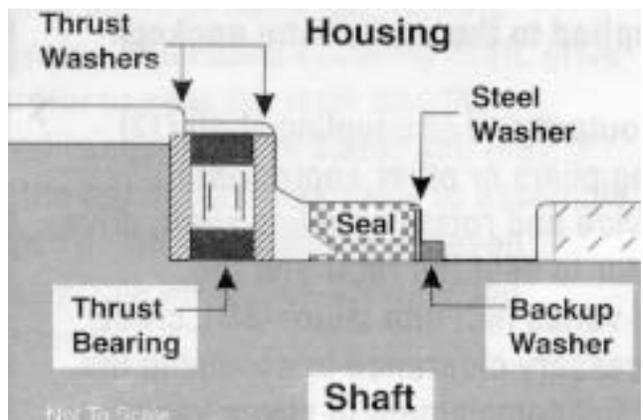

Figure 74
**IMPORTANT: Early model wheel motors that do not have back-up washer (6), assemble with a new back-up washer (4), new back-up washer (6), and new seal (7).**
5. A housing (3) that does not require replacement will require that the two thrust washers (8) and thrust bearing (9) be unseated and vertical to the counterbore and the new back-up washer (4), new back-up washer (6), and new seal (7) be worked around the thrust bearing package and placed into their respective counterbores (Fig. 73 and 72). The seal lip must face out of the seal counterbore and toward the inside of wheel motor (Fig. 74). Be sure the thrust bearing package is resealed correctly after assembly of the new seal and back-up washers.